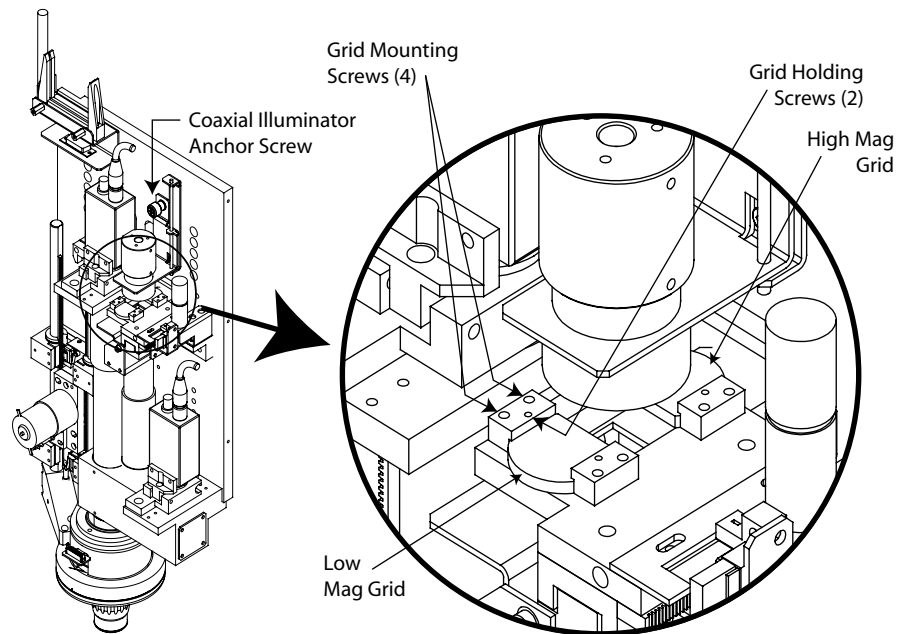

Figure 8-9 Ronchi Grid Adjustment
- d. Unscrew the Coaxial Illuminator anchor screw and lift/swing the Illuminator out of the way for accessing the "Grid Mounting Screws." Loosen all eight screws (four per grid, see Figure 8-9), and move the Coaxial Illuminator back to its functional position.